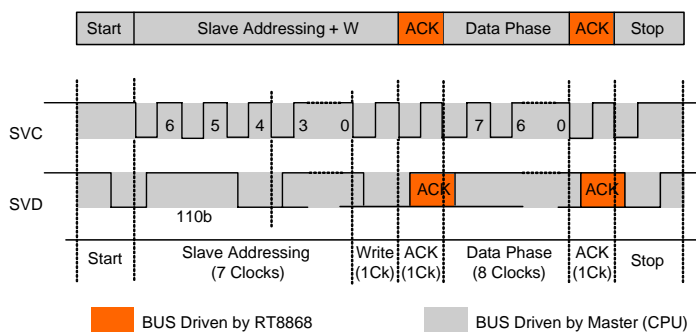

Figure 1. SVI Communication-Send Byte
SVI wire protocol is based on fast-mode I2C as shown in Figure 1. SVI interface also considers two additional signals needed to manage the system start-up. These signals are EN and PWROK. The device asserts a PGOOD signal if the output voltages are in regulation.
The Set VID Command is defined as the command sequence that the CPU issues on the SVI bus to modify the voltage level of the Core section and NB section, as shown in Figure 1. During a Set VID Command, the processor sends the start (Start) sequence followed by the address of the Section which the Set VID Command applies. The processor then sends the write (WRITE) bit. After the write bit, the Voltage Regulator (VR) sends the acknowledge (ACK) bit. The processor then sends the VID bits code during the data phase. The VR sends the acknowledge (ACK) bit after the data phase. Finally, the processor sends the stop (Stop) sequence. After the VR has detected the stop, it performs an On-the-Fly VID transition for the addressed section(s). Refer to Table 3 for the details of SVI send byte.